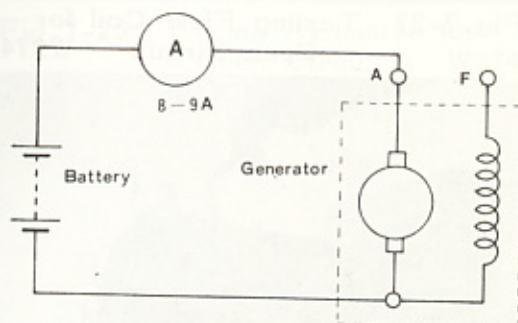

Fig.7-33 Wiring for Motoring Test X0968
4. If the current flow is from 4 to 5 amperes, and the generator rotates smoothly, the generator is satisfactory. Next, disconnect the wire between "A", and "F" the current flow should be 8 to 9 amperes as shown in figure 7-33.